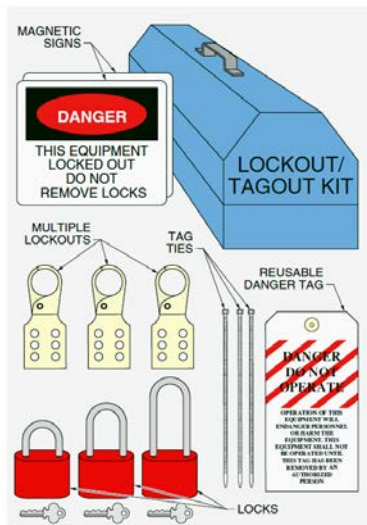

Figure10: Lockout/Tagout Kit
- If any corrective or preventative procedures are required, ensure brakes are cut-out before performing any work. Follow lockout/tagout procedures as per your authority (figure 10).